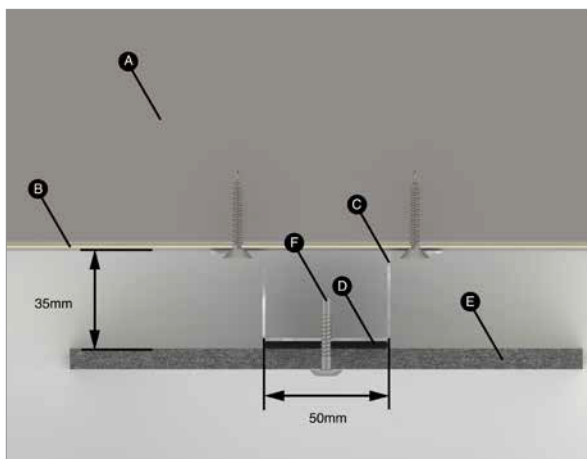

Figure 13.
Genesis Façade Gasket Tape is also applied to the Genesis Intermediate Top Hat to assist with movement and minimize any vibration in the panels (see Figure 13).
- If the small cut outs are no wider than 150mm, they can be mounted with one rivet fixing in the middle of the board width (see Figure 13).